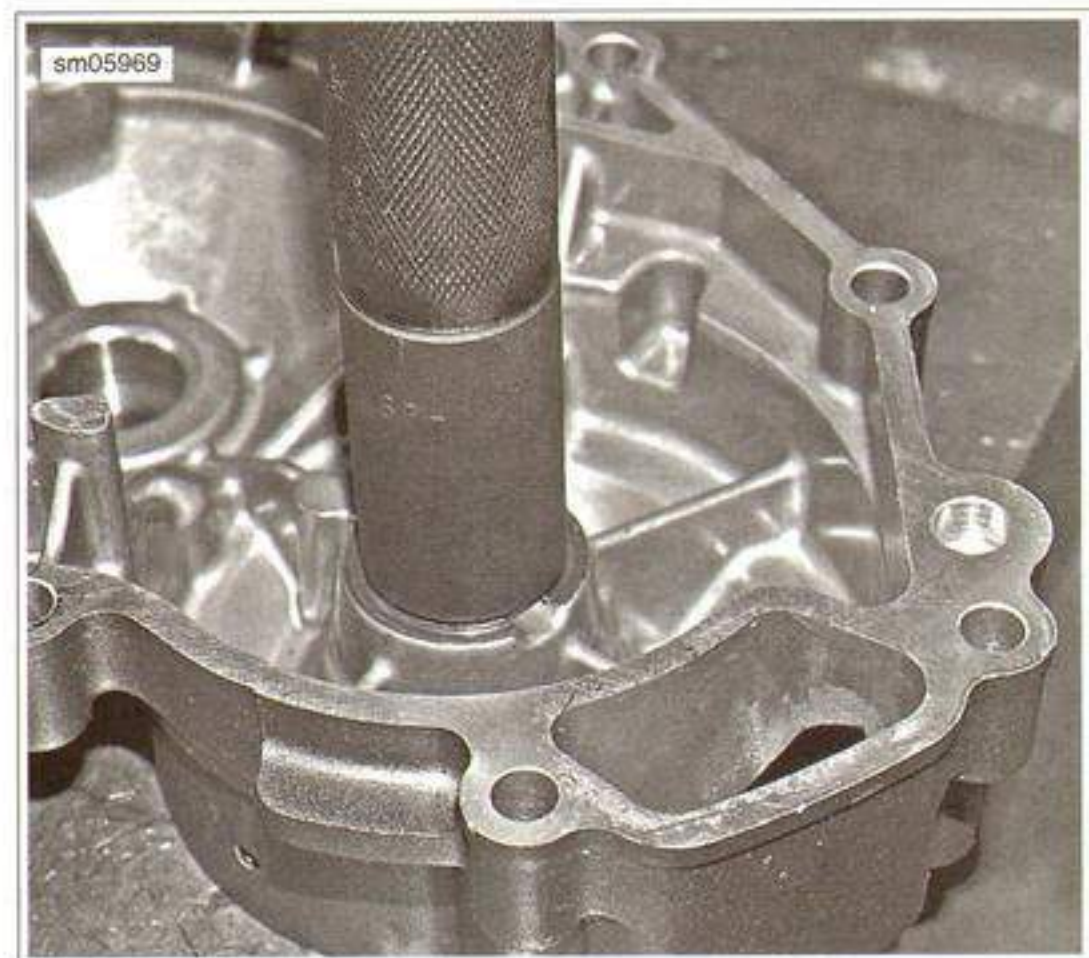

Figure 5-15. Water Pump Needle Bearing Installer (B-49196)
2. See Figure 5-15. Use the WATER PUMP NEEDLE BEARING INSTALLER (Part No. B-49196) to press a new bearing into the clutch cover.